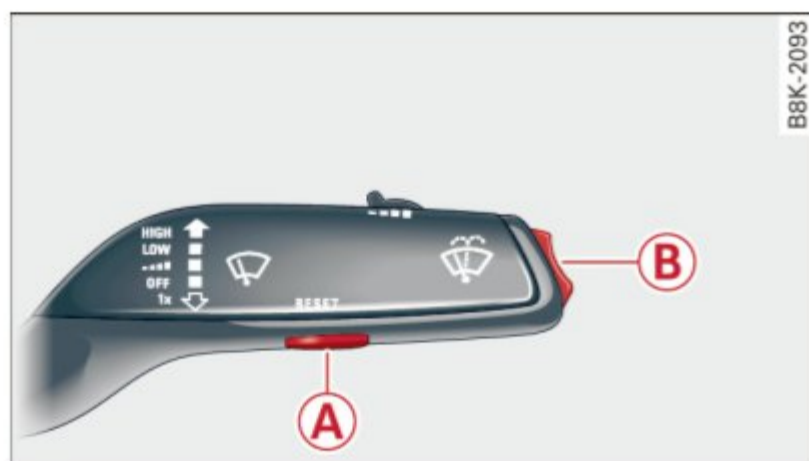

Fig. 11 Windshield wiper lever: controls for the trip computer
You can switch between the trip computer 1 and 2 and the efficiency program* by pressing the **RESET** button **A** ⇔ page 26, fig. 11.
► To display the trip computer memory levels, press the **RESET** button **A** ⇒ *fig. 11* re-
- ▶ Press the **RESET** button (A) ⇒ *page 26, fig. 11* repeatedly until the efficiency program appears in the display.
- ▶ In the efficiency program, press the function selection switch ⇒ *page 26, fig. 11 (B)* repeatedly until the enhanced shift indicator appears in the display.
- ▶ In the efficiency program, press the function selection switch ⇒ *page 26, fig. 11 (B)* repeatedly until the other equipment appears in the display.
- ▶ To turn a fuel economy message off immediately after it appears, press the **RESET** button ⇒ page 26, fig. 11 **A**, or
- ▶ Press the function selection switch ⇒ page 26, fig. 11 **B**.